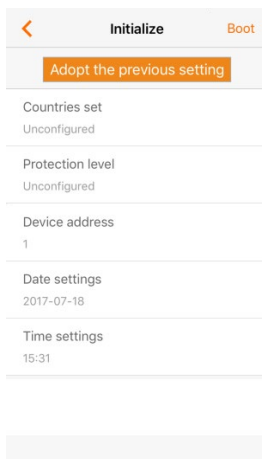

Fig. 10-3 Initialization protection parameter
Step 4 If the inverter is not initialized, you will enter the initialization protection parameter quick setting interface as shown in Fig. 10-3 after the Bluetooth is connected. After setting the quick setting interface, click “Save” and the device will be initialized. The App will send start instructions and the device will start and operate.